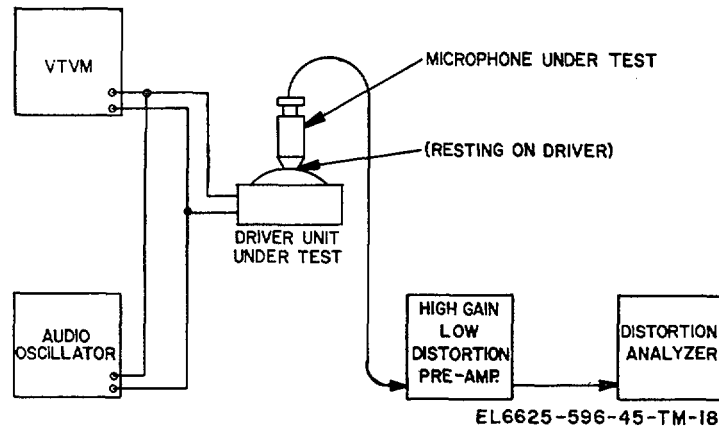

Figure 6-3. Coupler/driver unit distortion test setup.
- a. Connect the equipment as shown in figure 6-3.